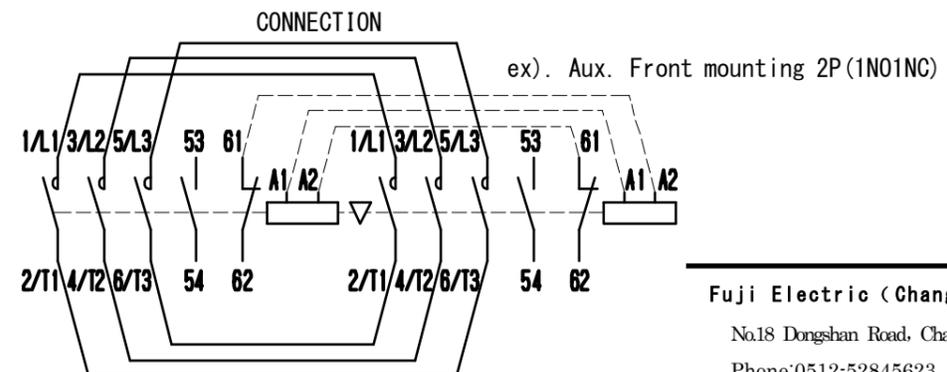

Fig. 4
- To prevent simultaneous engagement of forward and reverse contactors, be sure to electrically interlock with each other. (Figure4)